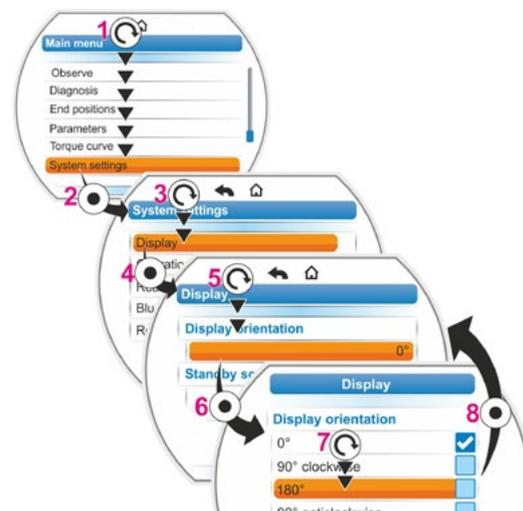

Fig. 2: Change display orientation
1. Select 'System settings' in the main menu (fig. 2, item 1) and confirm (fig. 2, item 2). The 'System settings' menu appears.
2. Set selection marker to 'Display' (3) and confirm (4). The currently set number of degrees by which the display is shifted is shown in the 'Display' menu.
3. Set selection marker to number of degrees (5) and confirm (6). The display changes to 'Display orientation'. The current setting is ticked .
4. Set selection marker to desired setting (7) and confirm (8). The indication in the display is adapted accordingly.